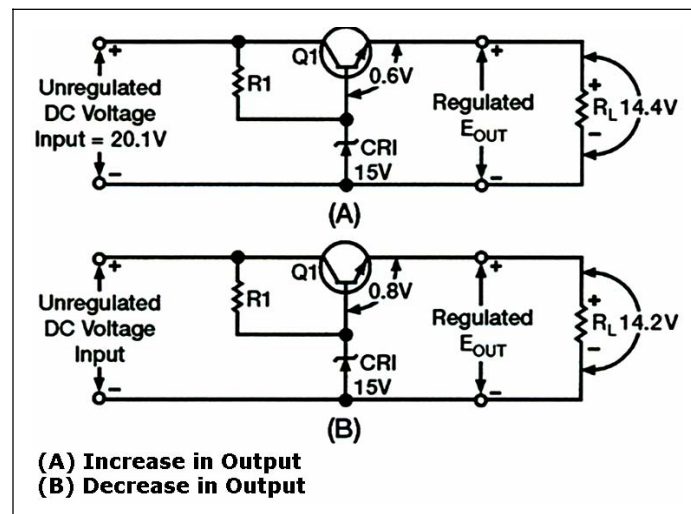

Figure 4-36. Series Voltage Regulator (Input and Output Voltages)
4-109. Figure 4-36, view (A), shows what happens when the input voltage exceeds 20 volts. Notice the input and output voltages of 20.1 and 14.4 volts, respectively. The 14.4 output voltage is a momentary deviation, or variation, from the required regulated output voltage of 14.3 and is the result of a rise in the input voltage to 20.1 volts. Since the base voltage of Q1 is held at 15 volts by CR1, the forward bias of Q1 changes to 0.6 volts. Since this bias voltage is less than the normal 0.7 volts, the resistance of Q1 increases, thereby increasing the voltage drop across the transistor to 5.8 volts. This voltage drop restores the output voltage to 14.3 volts. The entire cycle takes only a fraction of a second. Therefore, the change is not visible on an oscilloscope or readily measurable with other standard test equipment.
4-110. Figure 4-36, view (B) shows a schematic diagram for the same series voltage regulator with one significant difference. The output voltage is shown as 14.2 volts instead of the desired 14.3 volts. In this case, the load has increased causing a greater voltage drop across R_L to 14.2 volts. When the output decreases, the forward bias of Q1 increases to 0.8 volts because Zener diode CR1 maintains the base voltage of Q1 at 15 volts. This 0.8 volts is the difference between the Zener reference voltage of 15 volts and the momentary output voltage. ($15\text{ V} - 14.2\text{ V} = 0.8\text{ V}$). At this point, the larger forward bias on Q1 causes the resistance of Q1 to decrease, thereby causing the voltage drop across Q1 to return to 5.7 volts. This then causes the output voltage to return to 14.3 volts.